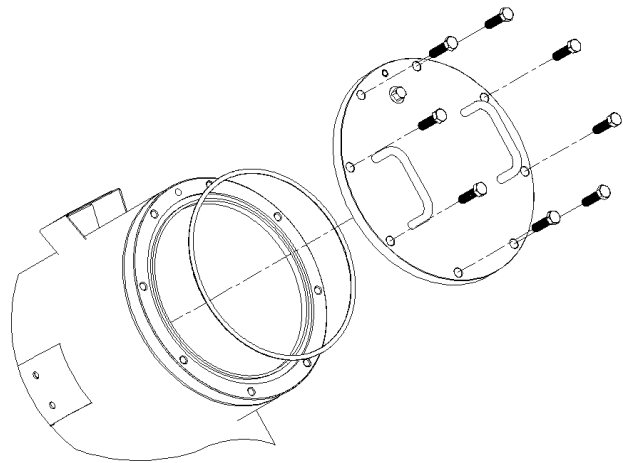

Figure 4
6. Inspect the lid o-ring (Figure 4, item 1) for damage and replace if necessary.
38. Inspect and clean or replace if necessary the eight 1/2-13 lid bolts (Figure 4, item 2) and corresponding threaded holes in the filter vessel lid flange.
Table for Figure 4 – Lid Closure and Gasket